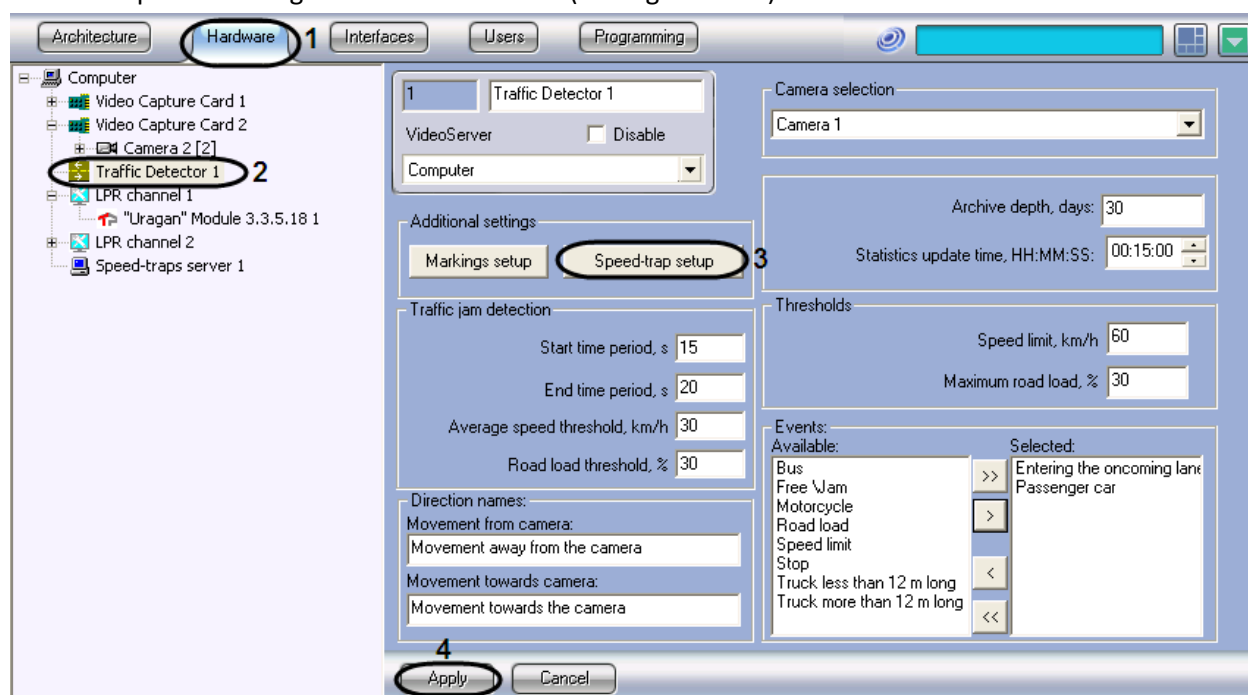

Fig. 7.4—15 Setting up the joint operation of Traffic Detector and Radar
2. In the object tree on the left side of the Hardware tab, select the Traffic Detector object representing the Traffic Detector module to be set up. The settings panel of the selected object will open on the right side of the window (see Fig. 7.4—15).